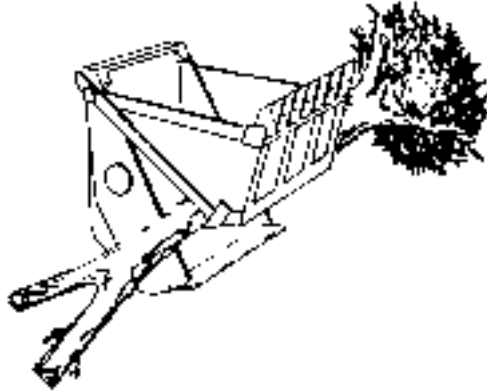

Fig. 4.49. Transporting Trees with Multi-purpose Bucket
8. When transporting trees or other large objects, always balance the load as shown in Fig. 4.49. Balance the load when picking it up to prevent twisting the boom assembly and linkage.